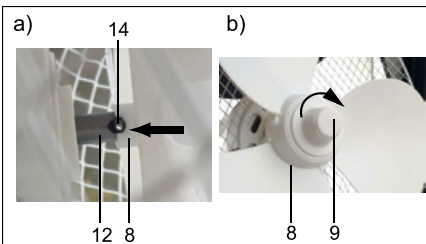

Fig. 14: Mounting rotor
4. Slide the rear guard grille (4) onto the axle (12) and the centering pins (13) of the engine block. See Fig. 14 a).
5. Slide the hexagon nut (5) onto the axle in front of the rear guard grille and tighten clockwise. See Fig. 14 b).